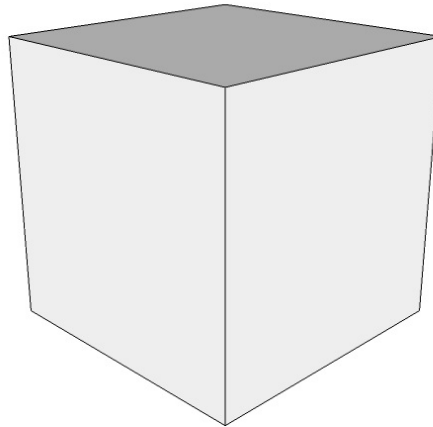

Figure 1: Thermocol block
- Mark the dimensions and cut out the cube of 4cm x 4cm x 4cm as shown in Figure 1.